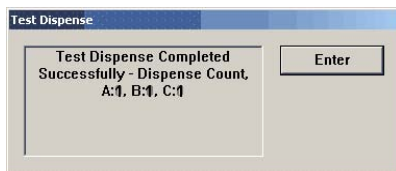

Figure 4-22.
6. After completion of the Test Dispense, the following prompt is displayed. (Figure 4-22) - “Test Dispense Completed Successfully - Dispense Count , A: (# of notes), B: #, etc